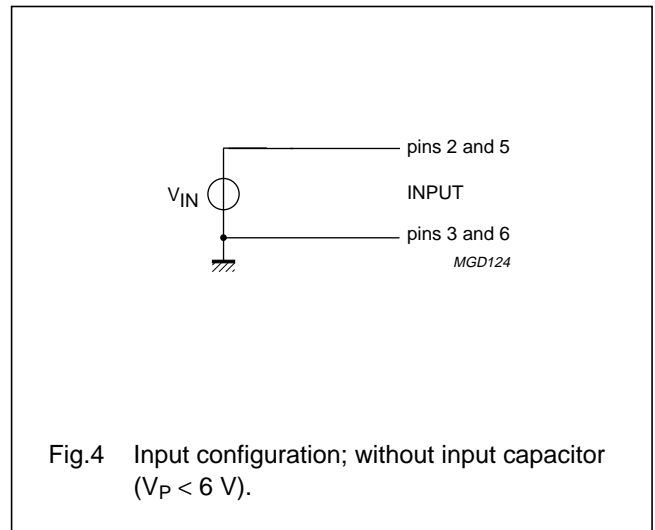
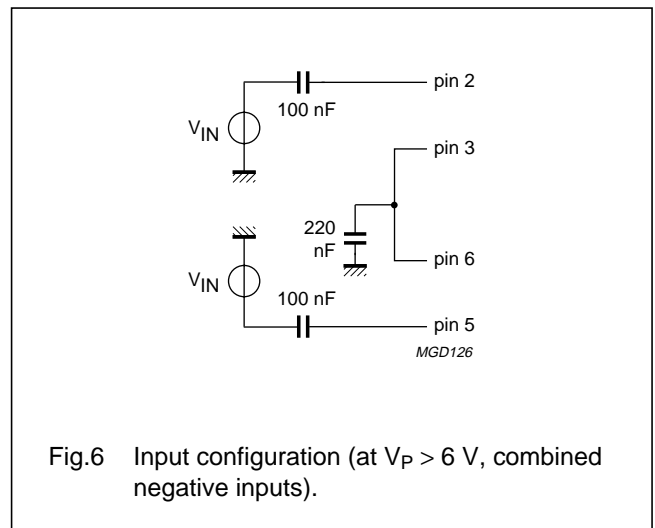
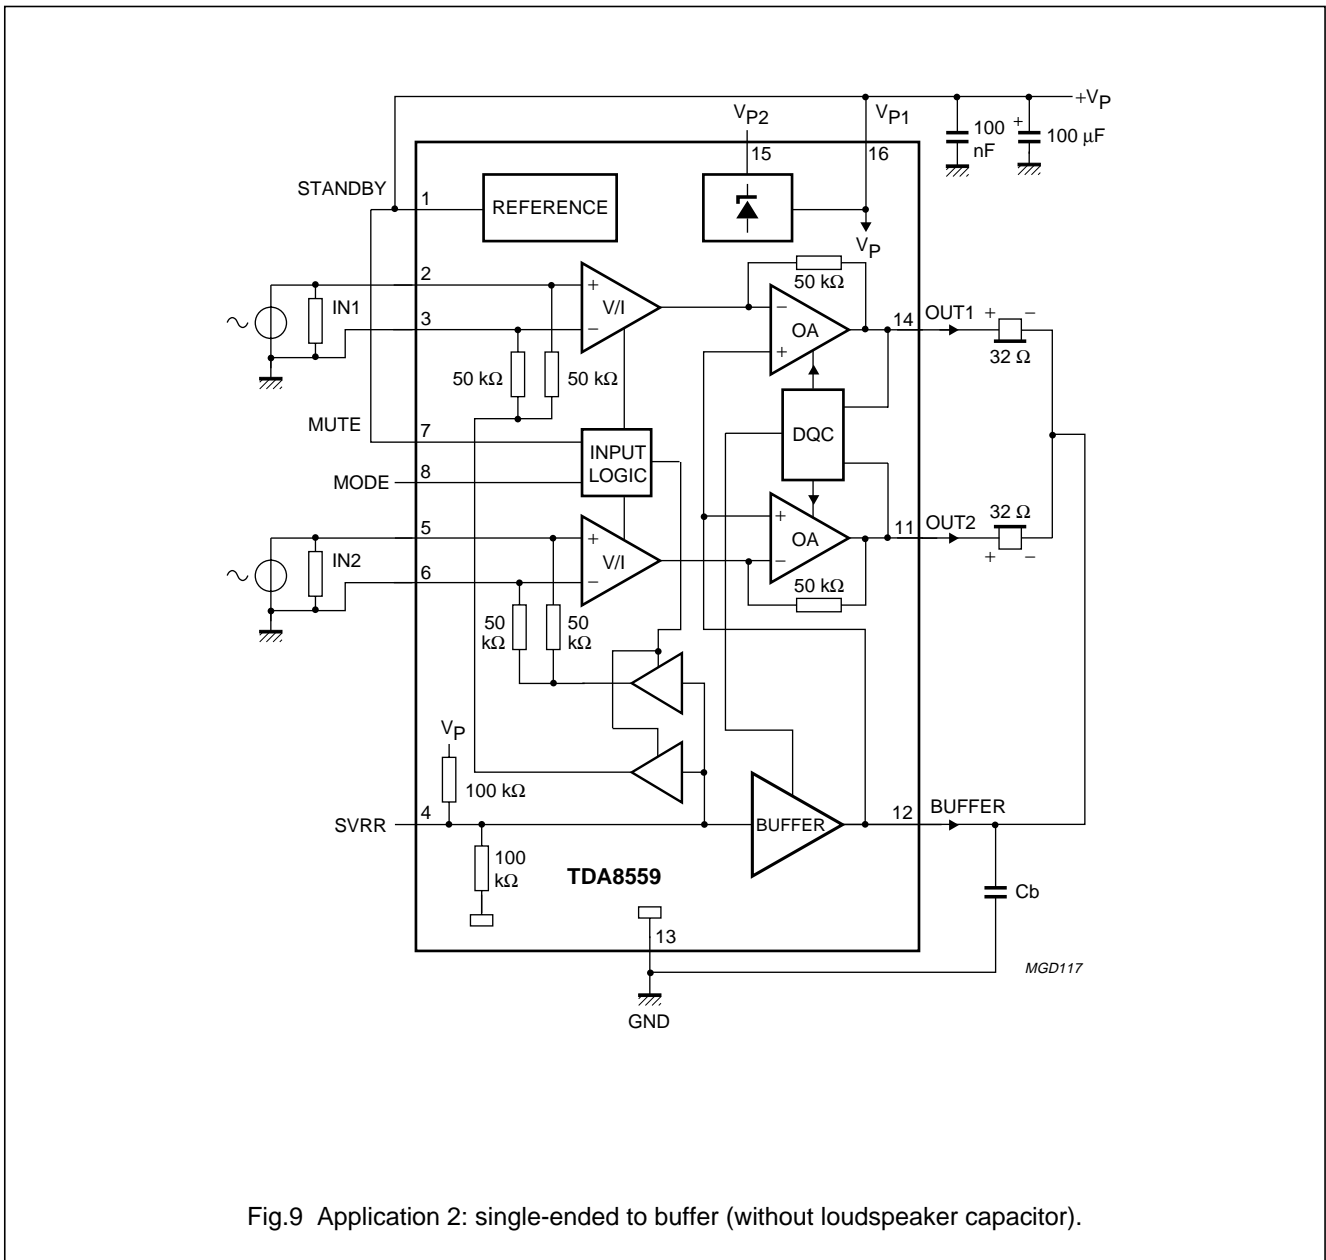
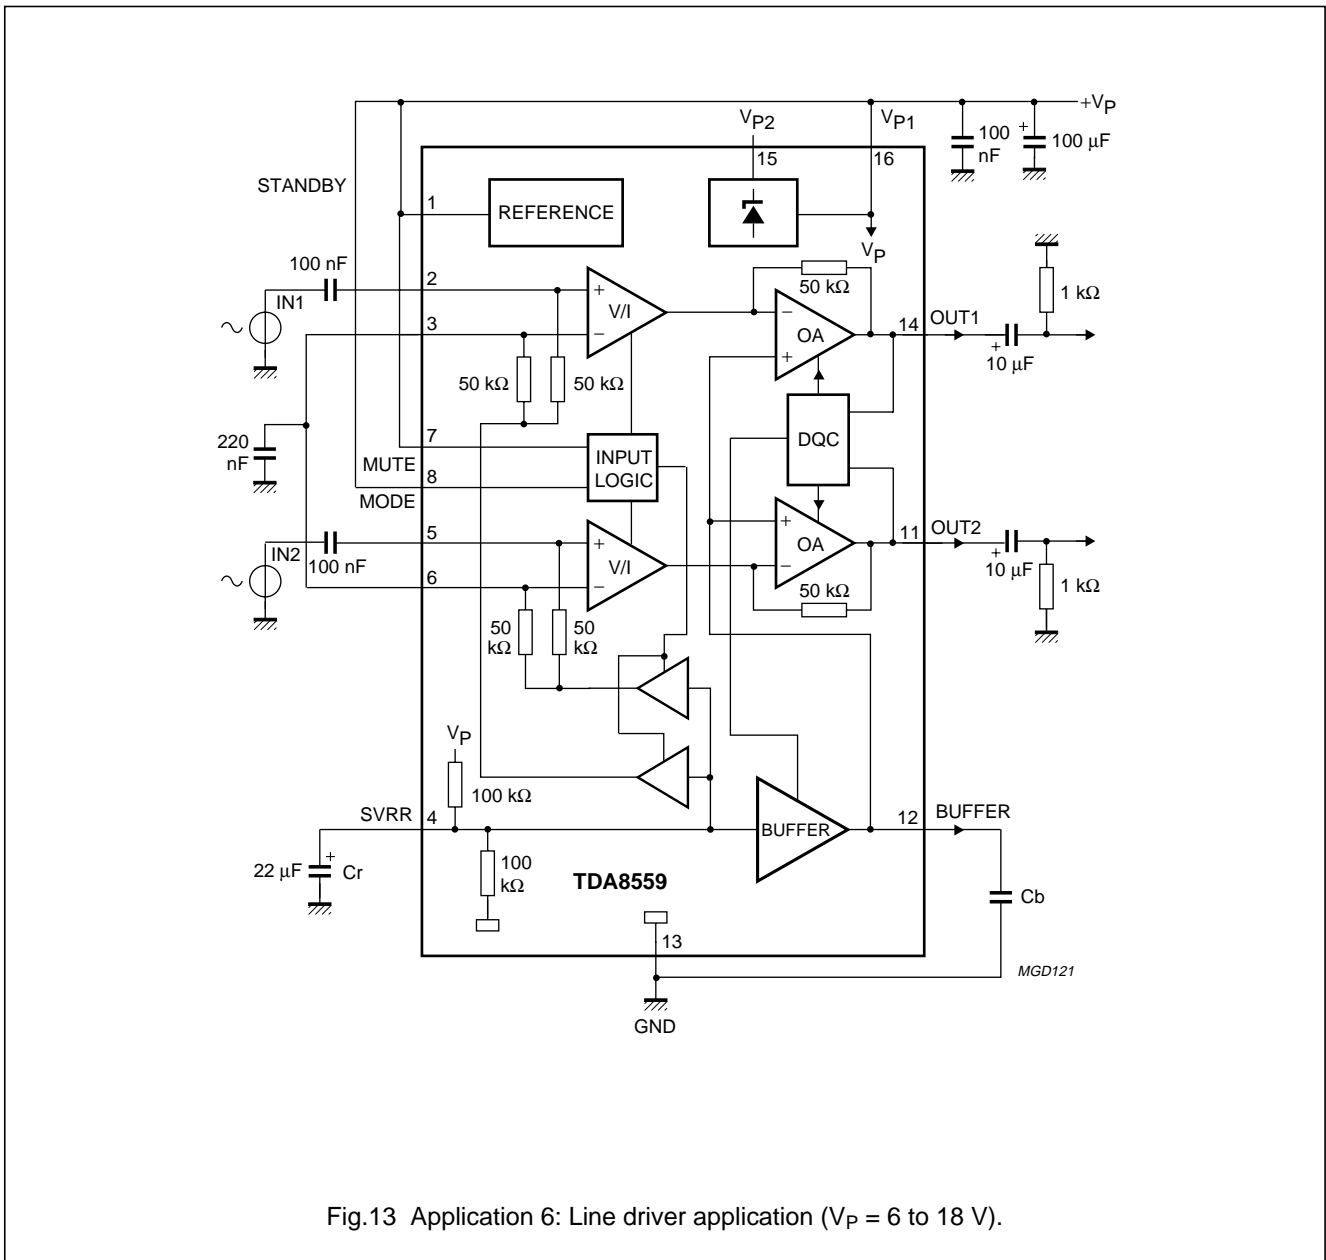

Fig. 4 Input configuration; without input capacitor ( $V_P < 6\text{ V}$ ).
Fig. 6 Input configuration (at  $V_P > 6\text{ V}$ , combined negative inputs).
Fig.9 Application 2: single-ended to buffer (without loudspeaker capacitor).
Fig.13 Application 6: Line driver application ( $V_P = 6$  to  $18$  V).
The standard application is stereo headphone single-ended with a  $32 \Omega$  load impedance to buffer (see Fig.9). The headphone amplifier can deliver a peak output current of 150 mA into the load.
- The graphs for the single-ended application have been measured with the application illustrated in Fig.9; input configuration for input mode low (Fig.4) and input configuration for input mode high (Fig.6).
- The graphs for the BTL application 'input mode low' have been measured with the application circuit illustrated in Fig.11 and the input configuration illustrated in Fig.4.
- The graphs for the line-driver application have been measured with the application circuit illustrated in Fig.13 and the input configuration illustrated in Fig.6; input mode high.
### **Application 2: SE to buffer (without loudspeaker capacitor)** (see Fig.9)
### **Application 6: Line driver application $6\text{ V} < V_P < 18\text{ V}$** (see Fig.13)